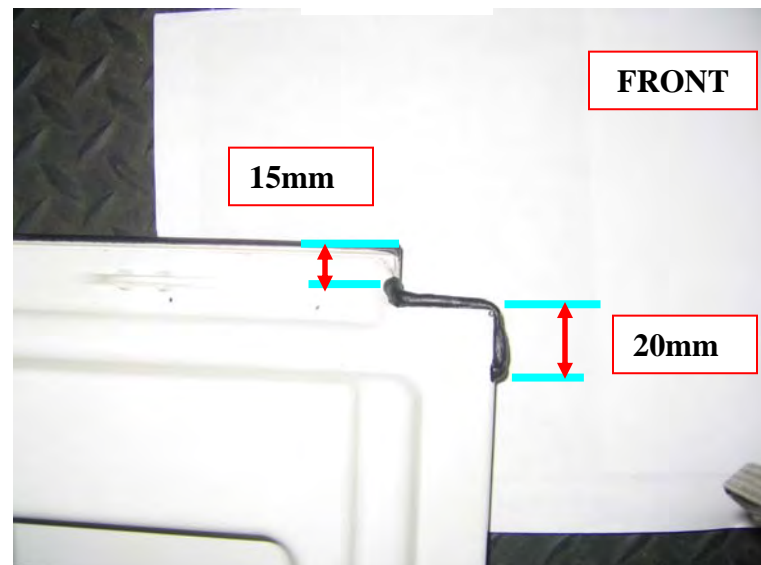

Figure 18
- Apply 4 mm diameter Butyl, Pt # 68027813AA, to Front Notch (Figure 18)